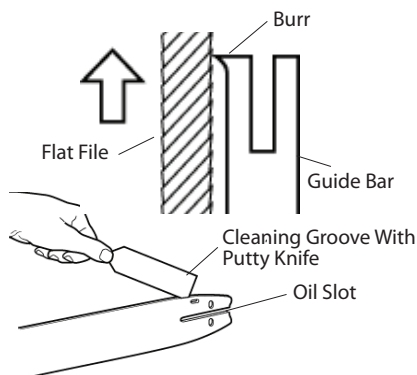

Figure 31 - Guide Bar Maintenance
2. Remove sawdust from guide bar groove periodically. Use putty knife or wire (see Figure 31).